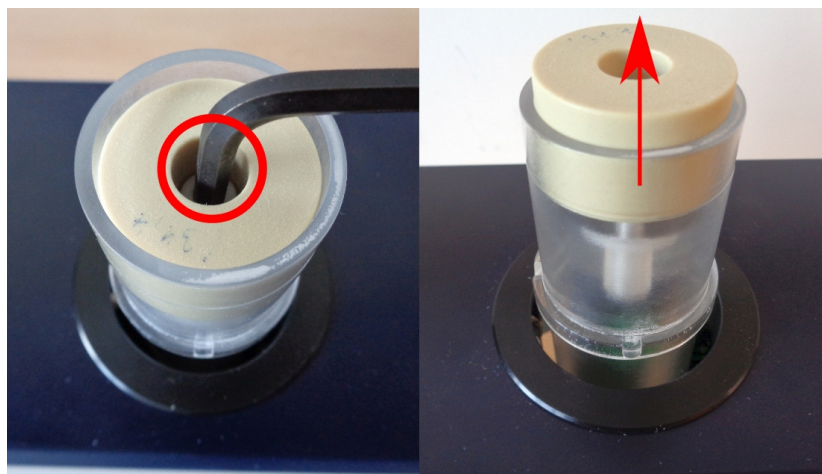

Figure 3
- Unscrew the plastic screw using 5mm hex key. Screw is marked by red circle in Fig. 3. Then remove the plastic disc from the tube.